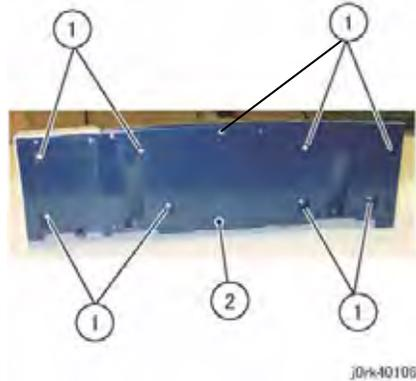

Figure 6 UI Lower Cover Removal
11. Remove the UI Lower Cover (Figure 6).